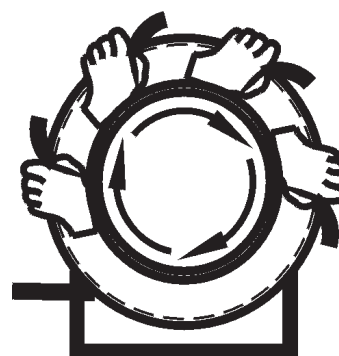

Figure 4-19 View from Outer Flange
- 4.13.2.1 The proper pre-tensioning required for effective operation varies by cable diameter and cable weight. Trial and error are the most effective means of setting the proper spring pre-tension. Pre-tensioning is achieved by pre-loading the spring with setup turns (reel revolutions). **See Figure 4-19.**